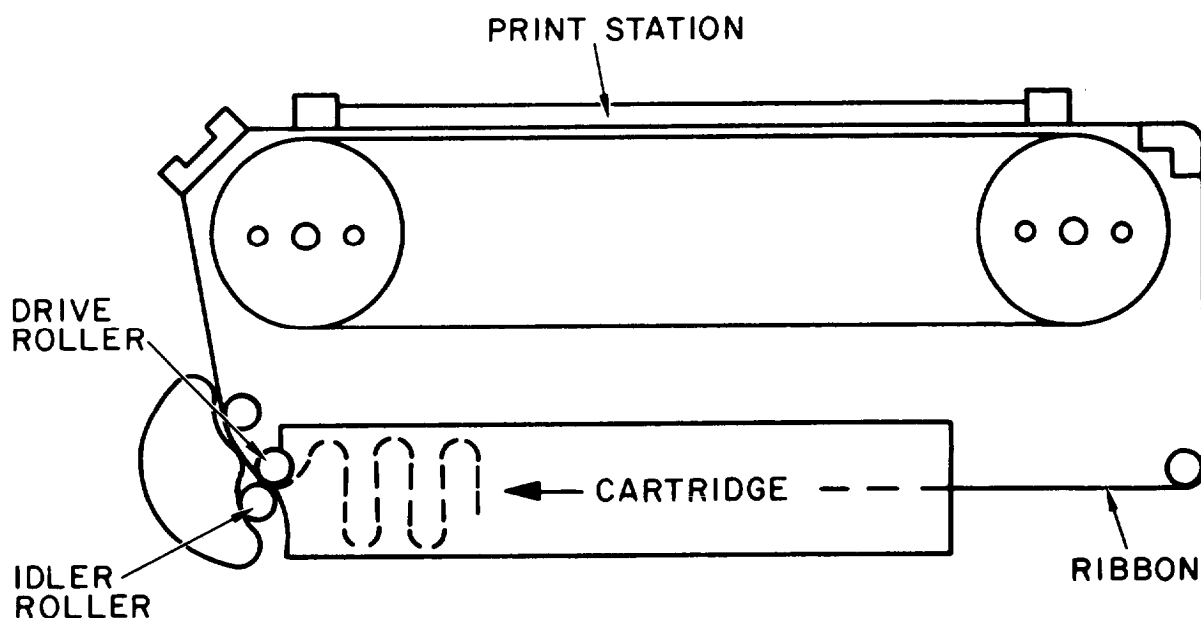

Figure 1-5. Ribbon Drive
b. Ribbon Drive System. Ribbon drive (fig. 1-5) is controlled by a belt-driven capstan drive roller whose motion is synchronized with character band rotation. The ribbon, which consists of a continuous loop, is pulled past the print station by means of the belt-driven capstan drive roller in conjunction with a counter rotating idler roller. The ribbon drive then refolds the ribbon in fanfold fashion and restores it into position in the ribbon cartridge.